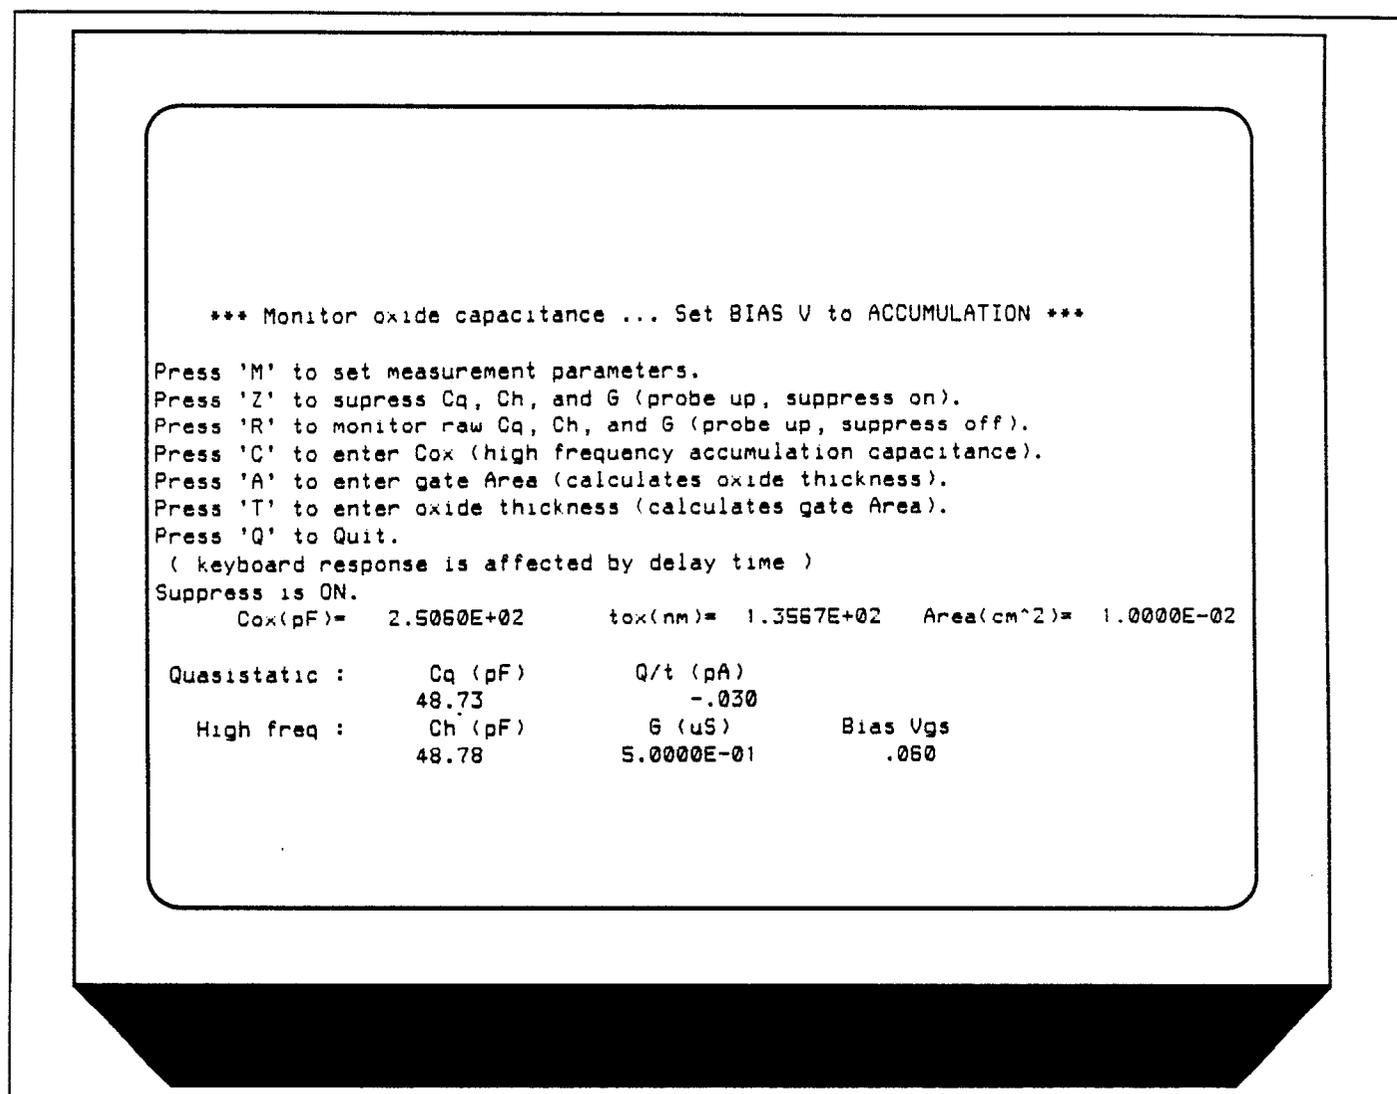

Figure 3-17. Oxide Capacitance Menu
4. Note the high frequency capacitance displayed on the computer CRT and verify that it is stable. A typical display, including option selections for C_{ox} , t_{ox} , and gate area, is shown in Figure 3-17.